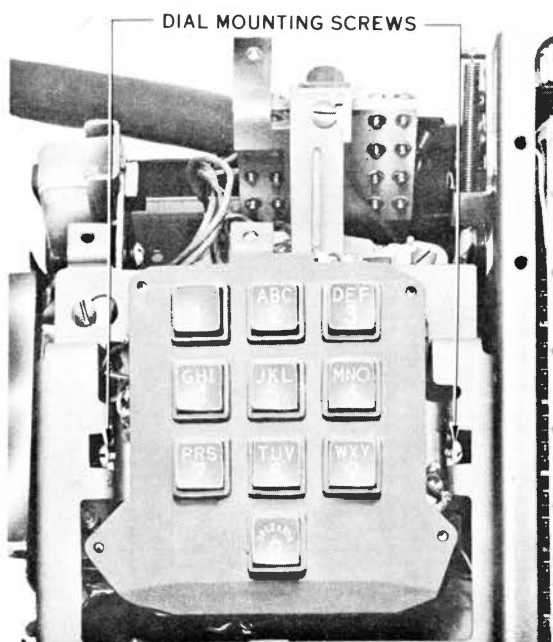

Fig. 6 — Method of Removing Dial
3.07 To remove dial (Fig. 6) :
- (1) Loosen screws from dial mounting plate.
- (2) Move mounting plate to left and lift.
- (3) Disconnect dial leads.
- (4) Remove mounting screws (Fig. 6).